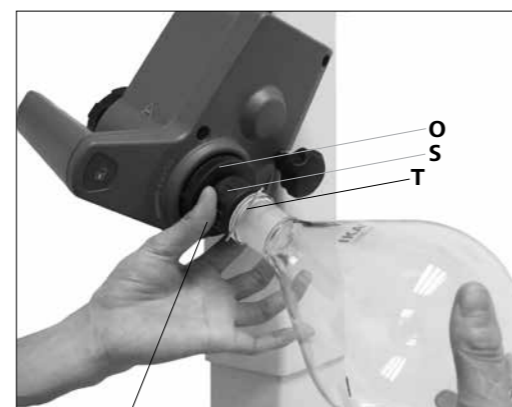

Fig. 15b
- Turn the plastic nut (S) with the clip (T) counterclockwise until the clip can be put on the flange. (Fig. 15b)
- Now turn the plastic nut clockwise until the clamp is hard up against the flange. When doing so, hold the locking device (O) on the steam pipe.